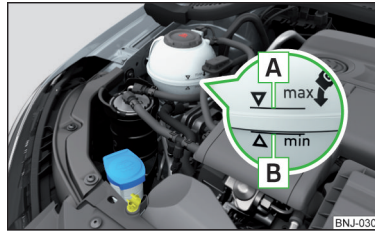

Fig. 261
Check the coolant level – The coolant level must lie between the marks **A** and **B** » Fig. 261. If the coolant level is below the mark **B**, top up with coolant.
› Fig. 261.
- Do not fill the coolant above the mark **A** › Fig. 261. The coolant could, when heated, be expelled from the cooling system - risk of damage to the engine parts.